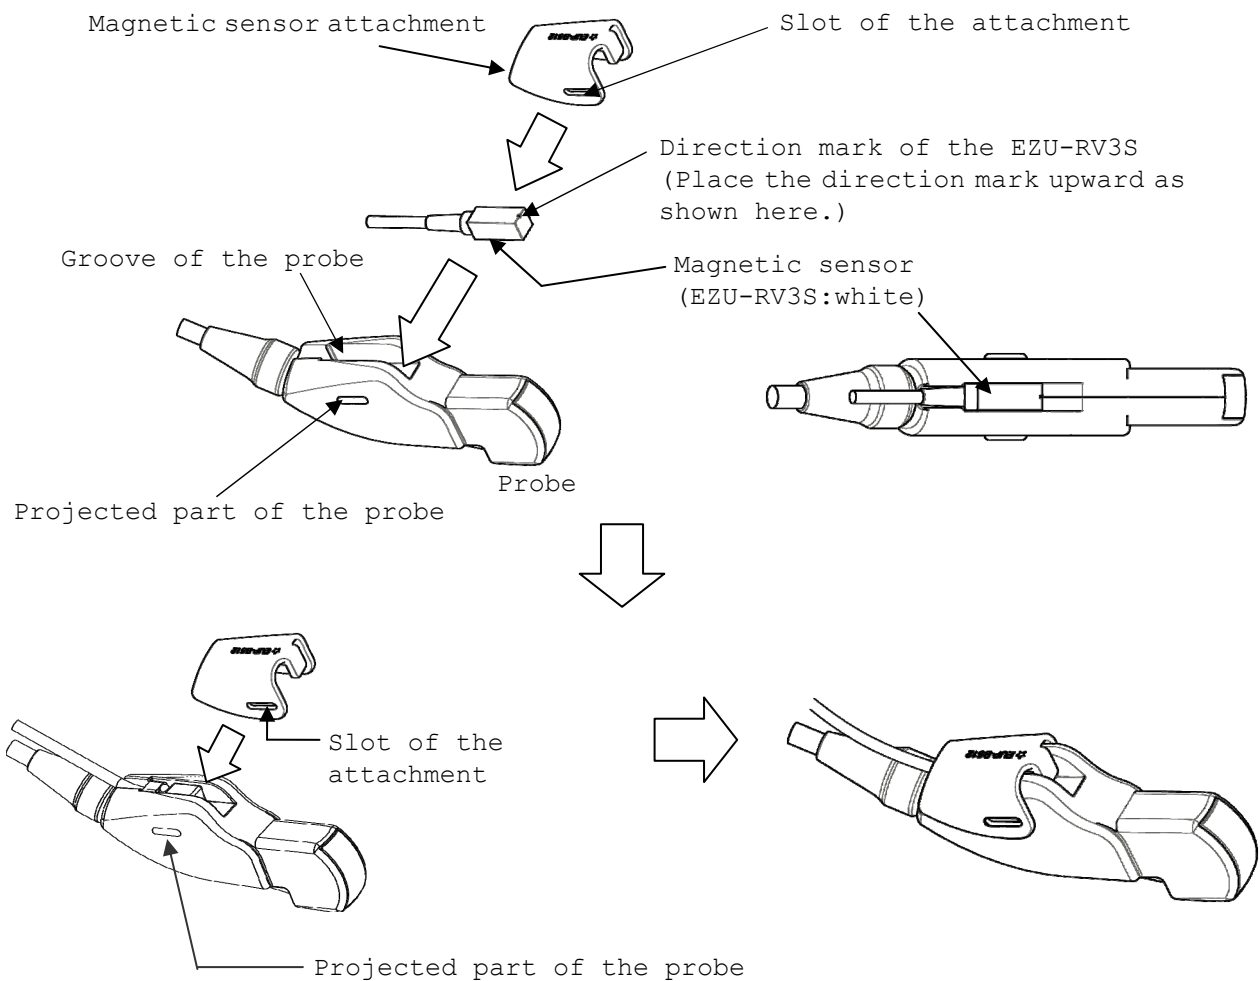

Fig.8 How to attach the Magnetic sensor attachment
- a) Attach the Magnetic sensor into the probe with the correct direction as shown in Fig 8.